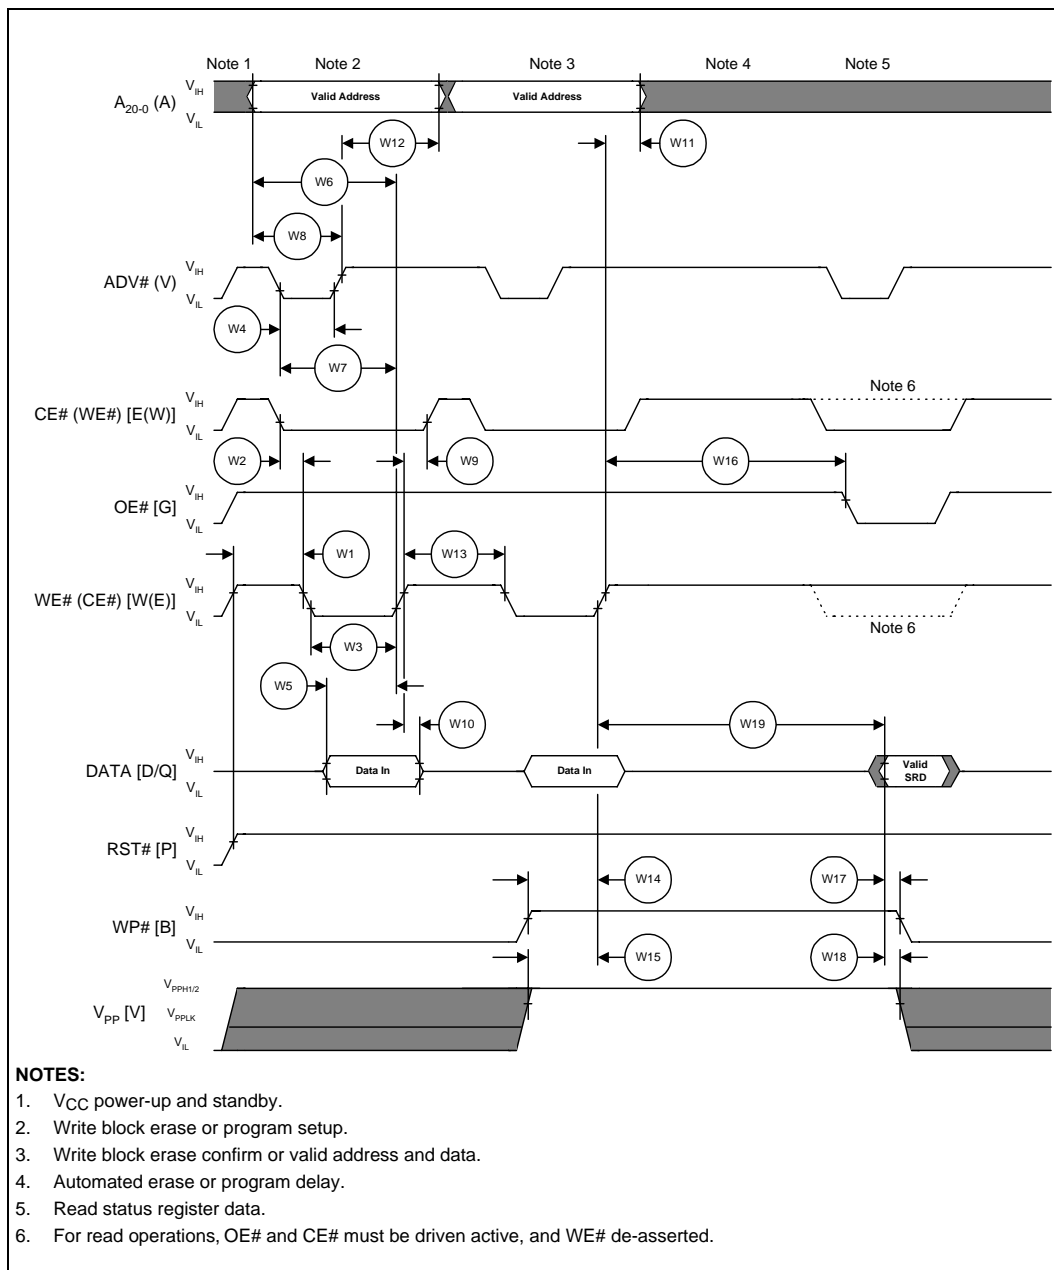

Figure 20. AC Waveform for Write Operations
5. Reference the *AC Waveform for Write Operations* Figure 20.